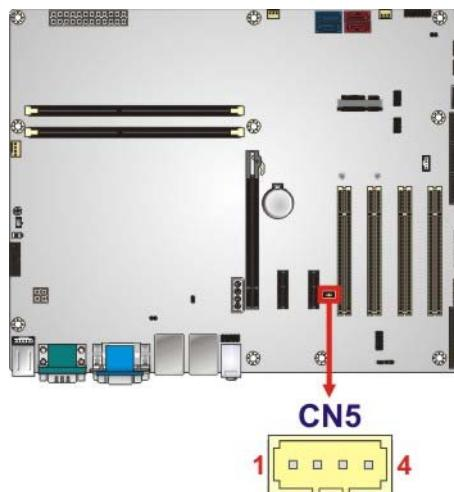

Figure 3-14: I²C Connector Location
3.2.13 I²C Connector**CN Label:** CN5**CN Type:** 4-pin wafer, p=1.25 mm**CN Location:** See Figure 3-14**CN Pinouts:** See Table 3-13